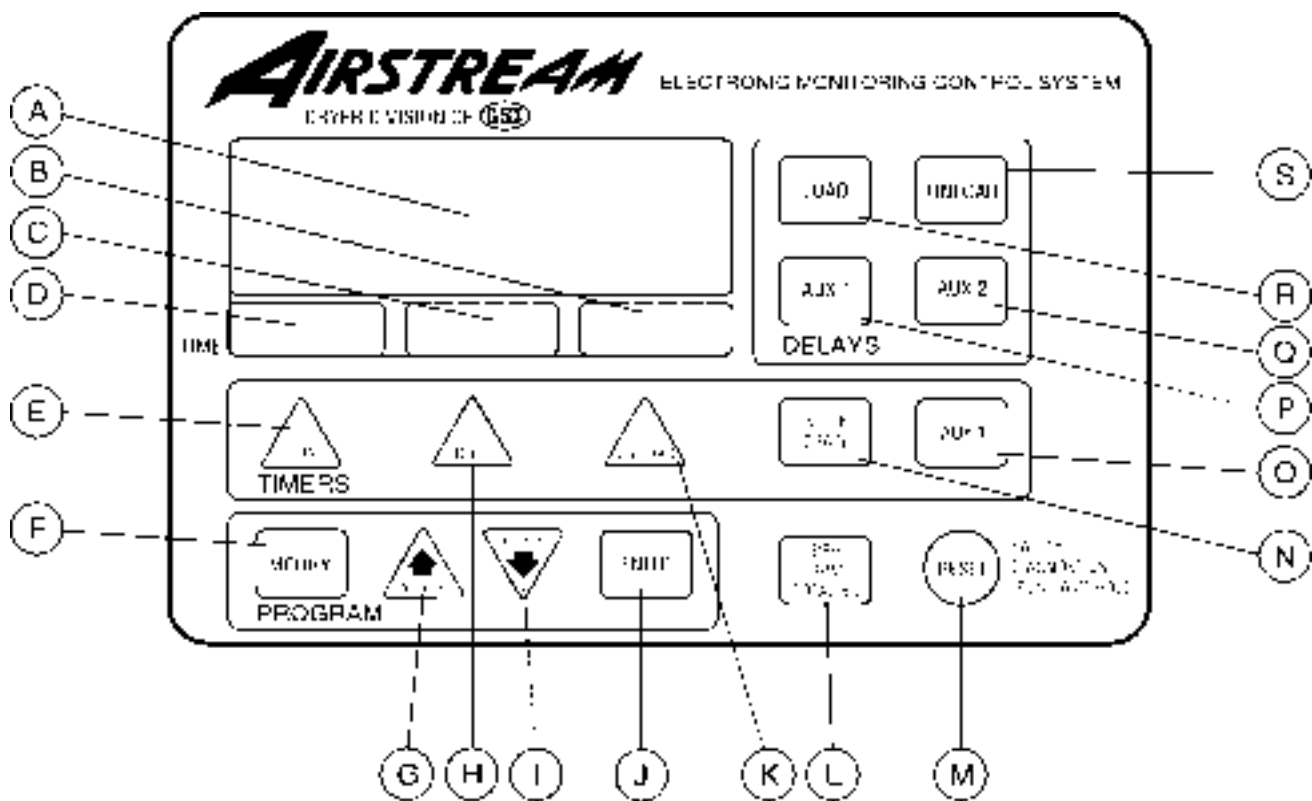

Figure 2: The C-Series Airstream Electronic Monitoring Control System.
The **Electronic Monitoring Control System** (fig. 2) controls all timing functions and safety circuit checks. It is designed to simplify dryer operation by providing printed messages and warnings on its liquid crystal display (LCD).
Turn the CONTROL POWER switch to ON. The monitor will display a copyright message and model number, total running time in hours and minutes and the current time and date (fig. 2-A). To activate the controller press the RESET button (fig. 2-M).
The DRY, COOL and UNLOAD timers (fig. 2-E, H, K) are used to set the cycle times in the STAGED BATCH DRYING MODE only. To use and display the settings on these three TIMERS, the DRYING MODE switch (fig. 1-6) must be in the STAGED BATCH position. The current setting on these three TIMERS is displayed directly above each TIMER button (fig. 2-B, C, D). To change the setting of these TIMERS follow these instructions:
1. Press the DRY, COOL or UNLOAD TIMER button (fig. 2-E, H, K).
2. Press the MODIFY button (fig. 2-F).
3. Press the INCREASE or DECREASE (fig. 2-G, I) button to adjust the settings.
4. Press the ENTER button to enter new setting into the controller (fig. 2-J).
After the DRY, COOL or UNLOAD button is pressed, screen messages on the LCD display of the **Electronic Monitoring Control System** direct the dryer operation through the proper sequence for setting the TIMERS. During operation the remaining time on each TIMER is displayed. If the power goes out or if the dryer is stopped, these times are saved by the controller. When the dryer is restarted the TIMERS will continue timing down from these times. They will return to their initial setting if the RESET button (fig. 2, M) is pushed.
If the dryer runs out of grain while the LOAD AUGER switch (fig. 1-7) is in the AUTO position, the OUT OF GRAIN timer (fig. 2-N) automatically shuts OFF the dryer after the period of time preset on the TIMER. When pressed, the display will show the amount of time left on the TIMER and the percentage of time used by the last load. A second screen will appear with the TIMER'S setting, and may be modified as described in the BATCH TIMER section.
The **Electronic Monitoring Control System** has four built in TIMER delays. The LOAD DELAY (fig. 2-R) is used to delay the starting of the **load auger** when the dryer is unloading to prevent the **load auger** from starting and stopping. The UNLOAD DELAY (fig. 2-S) is used to control the amount of time the **unload auger** runs after the **metering rolls** stop to allow for **auger** cleanout. Both the LOAD and UNLOAD DELAYS are set using the same pro-
cedure as the TIMERS. The AUX 1 (fig.2-P) and AUX 2 (fig. 2-Q) DELAYS are presently not being used.
When the dryer is operating, the LCD display (fig. 2-A) shows the DRYER MODE OF OPERATION on the first line, the BUSHEL PER HOUR or the METERING ROLL RPM on the second line and the TOTAL BUSHEL DRIED on the third line. By pressing the BPH/RPM/TOTAL BU button (fig. 2-L) the second line will alternate between the METERING ROLL RPM's or the BUSHEL PER HOUR rate that the **metering rolls** are removing grain from the dryer. The TOTAL BUSHEL DRIED reading is the total since the bushel counter was last reset. To reset the BUSHEL COUNTER, press and hold the RESET button (fig. 2-M) for five seconds. Press the ENTER button (fig. 2-J) through the date and time settings, and follow the instructions displayed on the LCD for resetting the counter.
The **Electronic Monitoring Control System** continuously checks all safety circuits on the dryer, and will automatically shut the dryer down should a problem occur. The cause of the dryer shutdown will be displayed on the LCD display (fig. 2-A), and a beeper will sound on the controller. To restart the dryer after a safety shutdown, first correct the reason for the shutdown, and then press the DRYER POWER STOP (FIG. 1-14) button to reset the circuit. Press the START button (fig. 1-13).